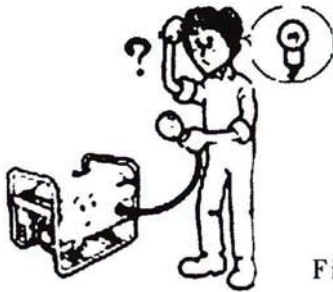

Fig. 58
10.2.1 Check the lamps (Figure 58)